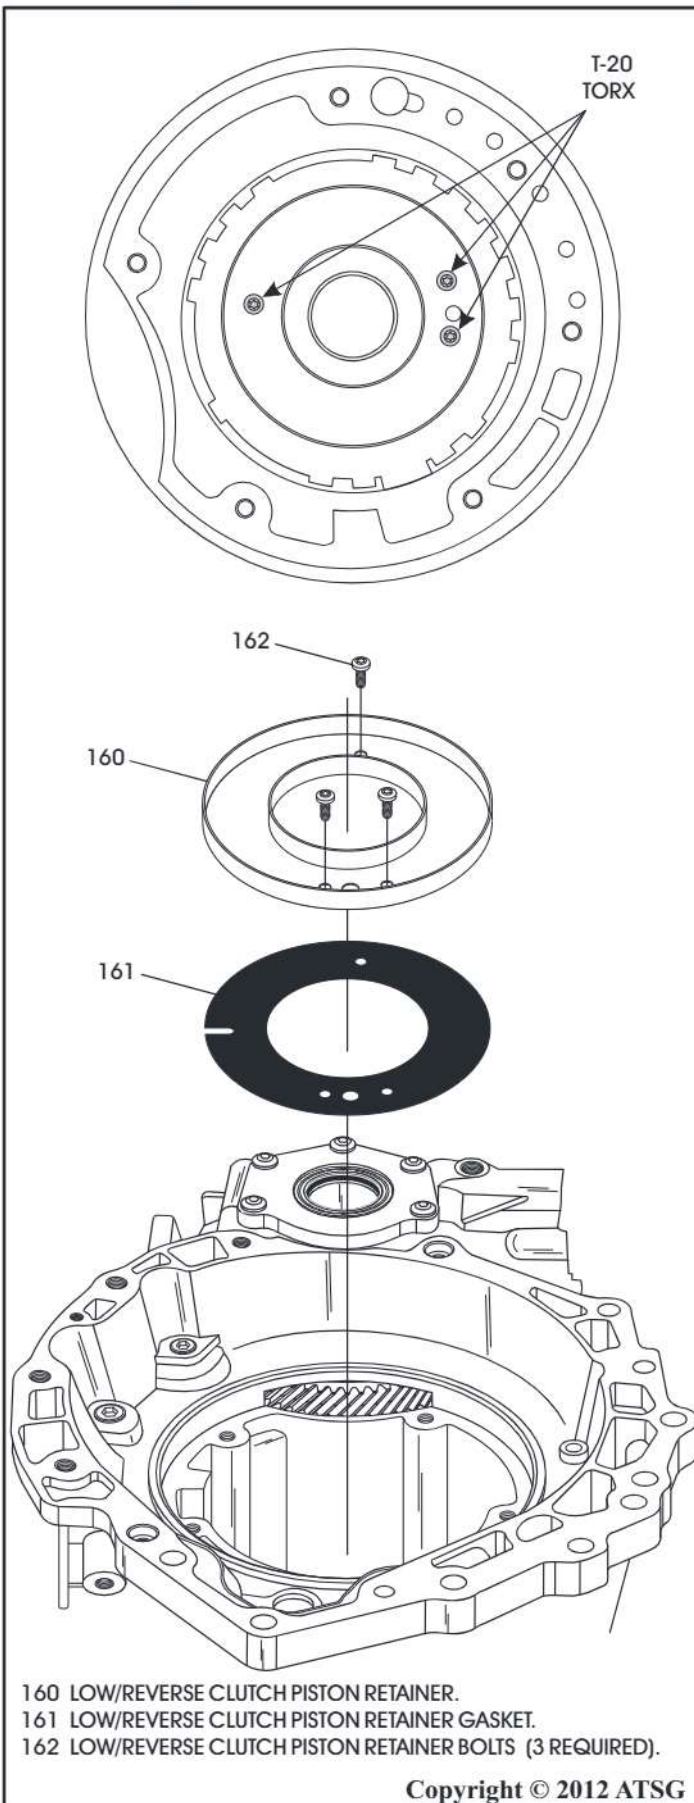

Figure 81
76. Remove 3 Torx screws retaining the low/reverse piston retainer using a T-20 Torx bit, as shown in Figure 81.
77. Remove and discard the low/reverse clutch piston retainer, as shown in Figure 81.
78. Remove and discard low/reverse clutch piston retainer gasket, as shown in Figure 81.